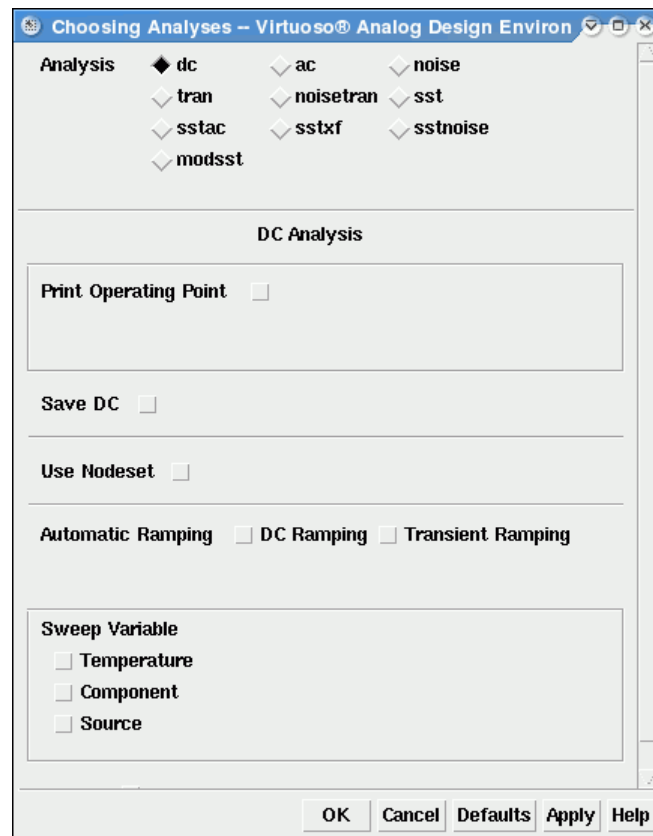

Fig. 18 Selecting simulation parameters
Left click **Analyses->Choose**. The *Choosing Analyses* dialog box comes up. Now specify the simulation. Select Analysis: **dc** (Fig. 18, next page), switch off *Print Operating Point*, select Sweep Variable: **Source** (1). Next you specify Sweep Range. Fill in Start **0** and Stop **5** and By **0.01**. Left click at the box **Select S1**. Switch over to the schematic and select the sweeping source by clicking at the pulse generator *drv* at the input of the inverter. Then switch back to the *Choosing Analyses* dialog box. In the *1stSource* field */drv* should appear. See if the *Enabled* checkbox is switched on and click at **Apply**. In the same window you can specify the transient simulation as well. Select **tran** and set *From Time* **0**, *To Time* **25n**. Switch on the *Enabled* checkbox and click **OK**. In the *Analyses* field of the *Analog Environment* window the specified data appear.